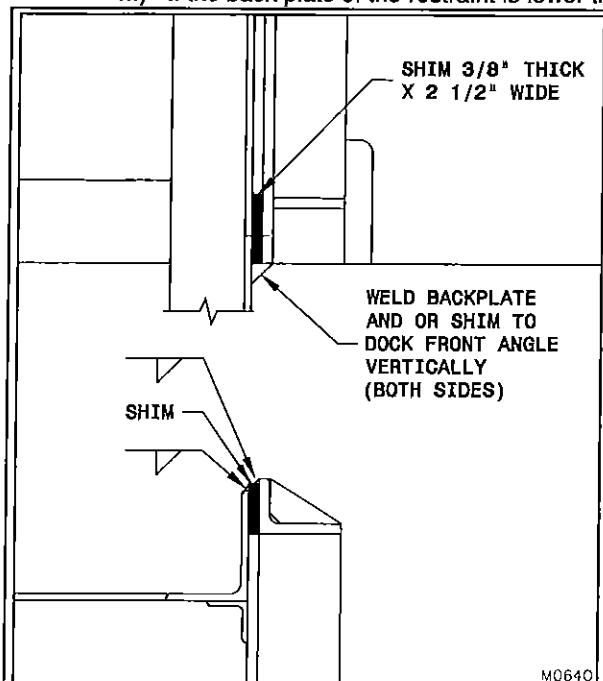

Figure 15: Back Plate is Higher Than Dock Front Angle
- l) If the back plate of the restraint is higher than the front angle of the dock leveler, shim between the top angle of the back plate and the front angle of the dock leveler and weld the shim to both as shown in Figure 15, page 15.